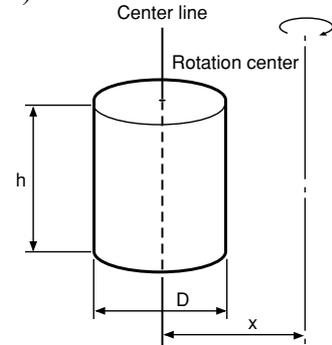

Fig. 3-83
- 5) When the object's center line is offset from the rotation center. The equation for the moment of inertia, when the center of the cylinder is offset by the distance "x" from the rotation center as shown in Fig. 3-83, is given as follows.